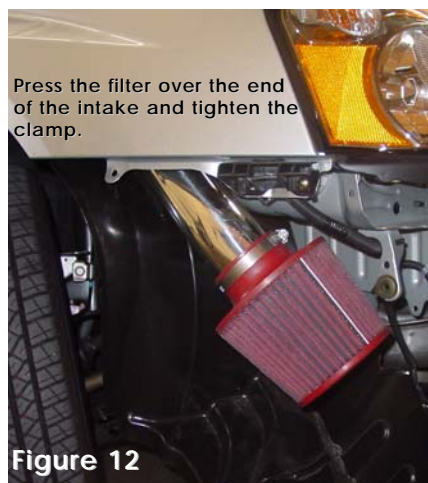

Figure 12
- 11- Take the Injen filter and slip it over the lower end of the intake in the bumper area and tighten the clamp on the filter. (See fig. 12)